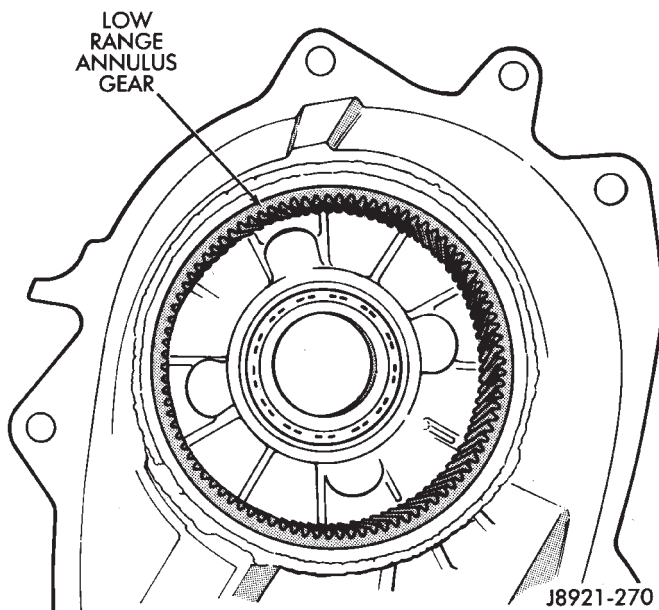

Fig. 44 Inspecting Low Range Annulus Gear
- (7) Inspect low range annulus gear (Fig. 44). **Gear is not a serviceable component. If damaged, replace gear and front case as assembly.**
- (8) Remove oil seals from following components: